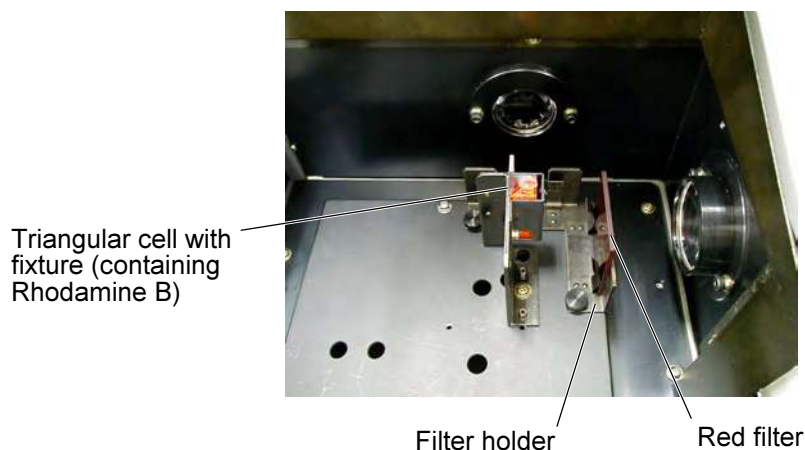
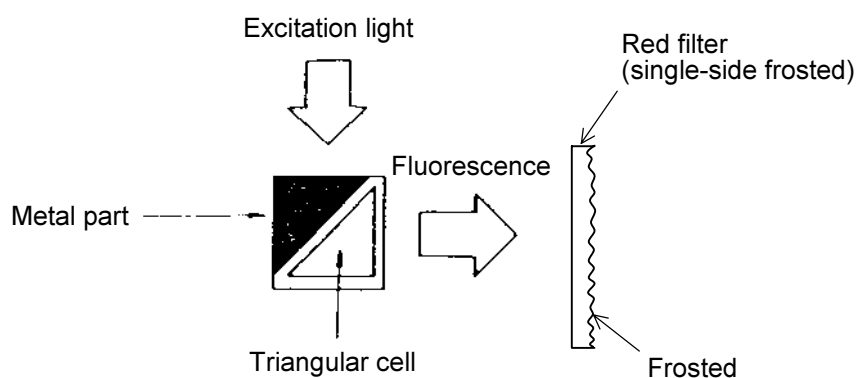

Fig. F-2 Setting of Triangular Cell Containing Rhodamine B
Fig. F-3 Setting Direction of Triangular Cell (top view)
- (1) Click the  (analysis method) button on the Measurement toolbar. A box for setting your analysis method will appear.
- (2) Select the General tab. On the General tab page, specify "Wavelength scan" for the measurement mode.
- (3) Select the Instrument tab.
- (4) Set "Fluorescence" for the data mode, "400 V" for the photomultiplier voltage and "Excitation" for the scan mode.
- (5) Execute the Zero Adjust command from the Spectrophotometer menu to calibrate the zero point.
- (6) As shown in Fig. F-2, set the triangular cell filled with Rhodamine B into the cell holder in the sample compartment, the filter holder to the sample compartment and the red filter (single-side frosted) in the filter holder. In so doing, pay attention to the direction of the triangular cell and filter. (Refer to Fig. F-3)